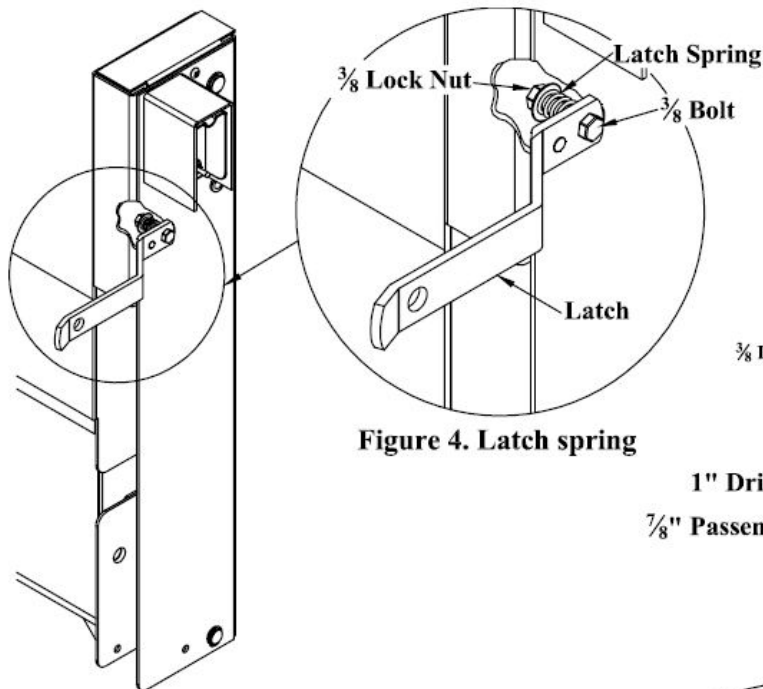

Figure 4. Latch spring
- 5) Check the spring tension on the driver's side and passenger's side latch springs as shown (Figures 4 & 5). The driver's side swing away latch spring should measure 1" tall. Tighten or loosen if necessary. The passenger's side fixed latch spring should measure 7/8" tall. Tighten or loosen if necessary.